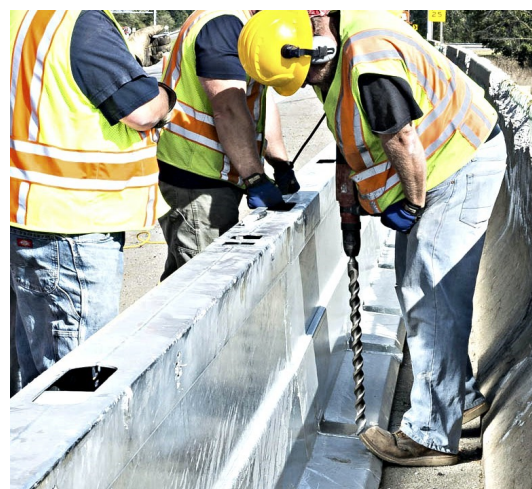

Figure 7
- a) **Anchoring into Asphalt or Concrete Roadway** – Using the holes in the feet as a template, drill a 1 ½" diameter hole to the proper depth required by the length of the pin (see Figure 7). Once the holes are drilled, clear the debris from the hole. Insert the pin into the hole of the foot. If necessary, drive the pin using a hammer until the top of the pin is firmly against the foot of the Zoneguard®. If the head of the pin is not firmly against the foot of the Zoneguard®, remove the pin and drill the hole deeper.